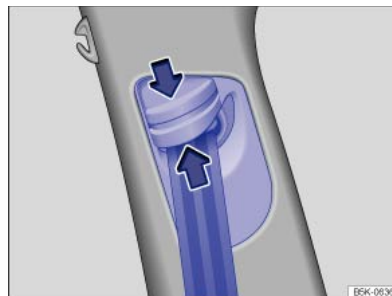

Fig. 42 Next to the front seats: belt height adjuster.
- Push the shoulder belt guide together in the direction of the arrows and hold ⇒ Fig. 42 .